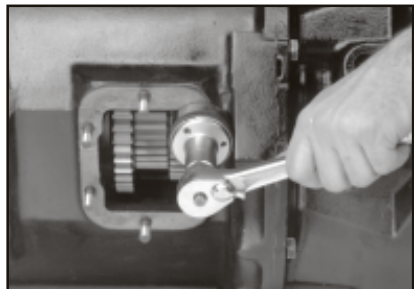

Fig. 3
3. Install the proper studs (furnished with the P.T.O.) in the P.T.O. aperture pad using a stud driver. Studs may have either interference fit threads (plain) or pre-applied locking/sealing compound. (See Fig. 3.)